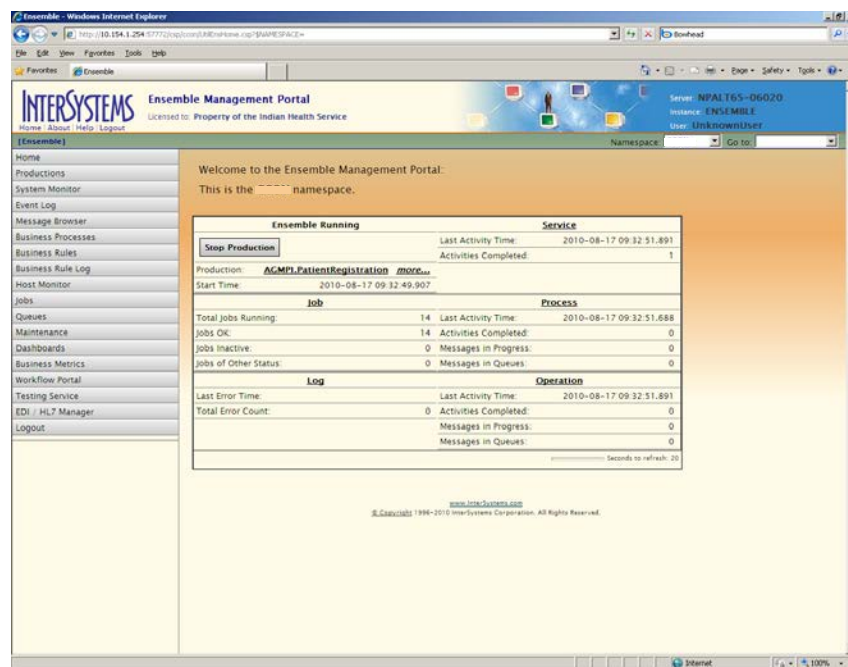

Figure 3-13: **Ensemble Management Portal** page
4. Click the **Ensemble Management Portal** link to open the Ensemble Management Portal, as shown in Figure 3-13.